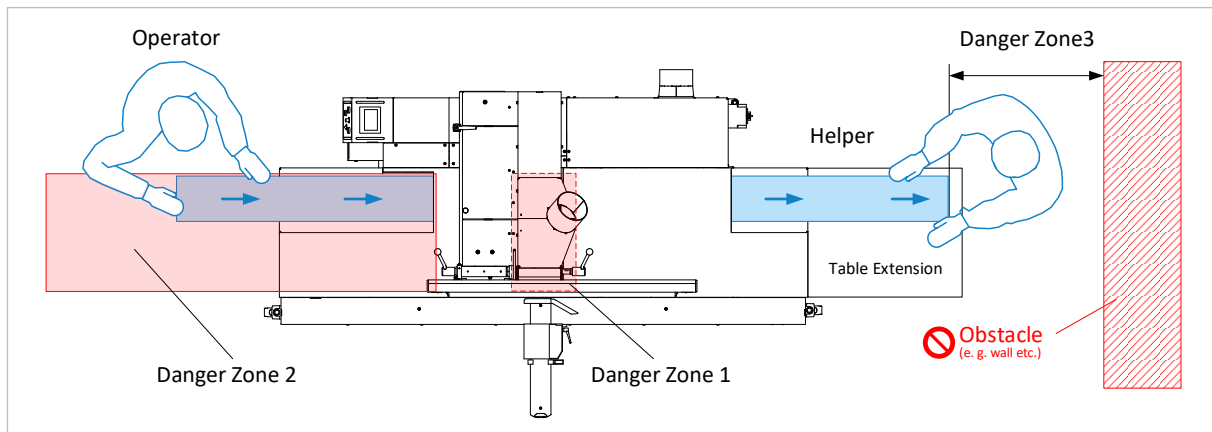

Figure 3: Danger zones during thickening
- The operator of the machine must generally stand on the infeed side of the machine, in the cutting direction and with his body to the side of the machine table during thickening. Do not enter the Danger Zone 2 marked in ⇨ Figure 3 while the cutter is running.